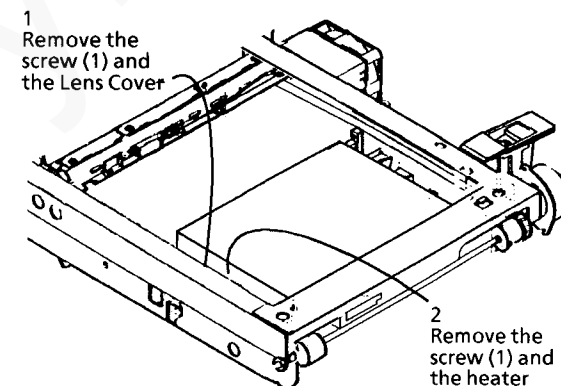

Figure 1. Removing the Optics Heater
3. Remove the Optics Heater (Figure 1).